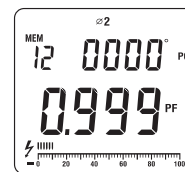

Figure 21
- Then press **SELECT** again to choose the second phase $\varnothing 2$, see figure 21.